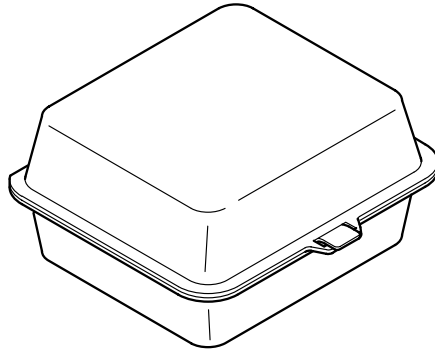

Fig. 2
- 7 Give **two** reasons why expanded polystyrene is used for food containers as shown in Fig. 2. [2]